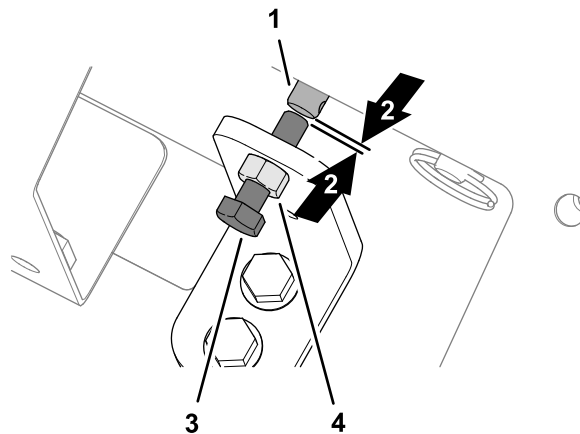

Figure 33
- Loosen the jam nut at the manual-override bracket (Figure 33).
- Rotate the hex-head screw for the valve override counter clockwise until you see a small gap between the end of the screw and the end of the stem of the floor-speed solenoid (Figure 33).
- Tighten the jam nut (Figure 33).